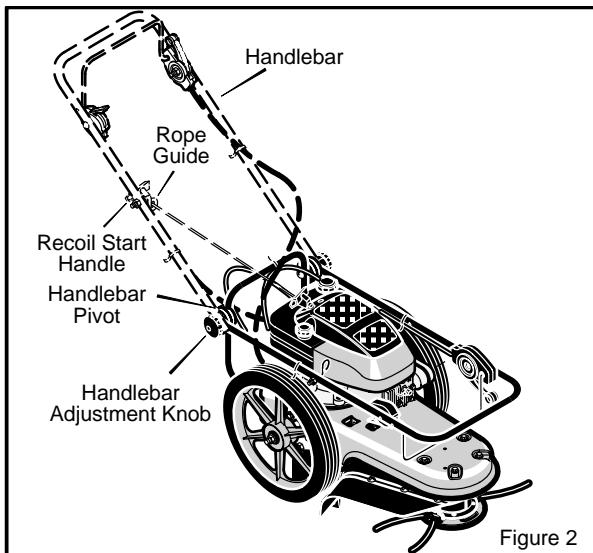

Figure 2
1. Hold the **handle** with one hand and loosen both **handle adjustment knobs** until the ratchet teeth are disengaged. Do not remove the **handle adjustment knobs**. See Figure 2.